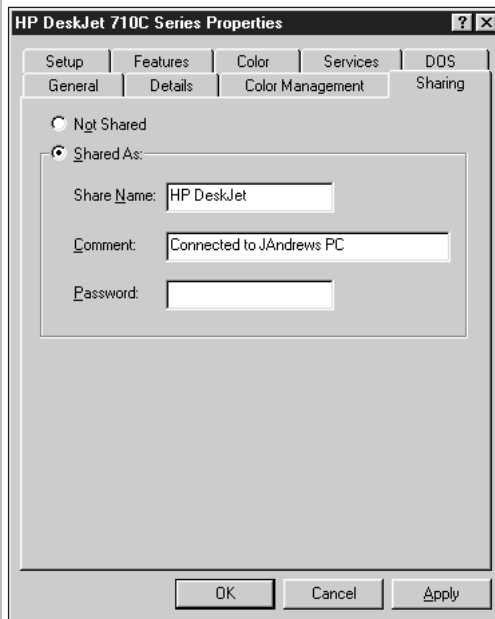

Figure 18-12 When using Windows 98, use the printer Properties window to share a connected printer with other computers on the network
6. The Properties dialog box opens with the Sharing tab selected (see Figure 18-12).